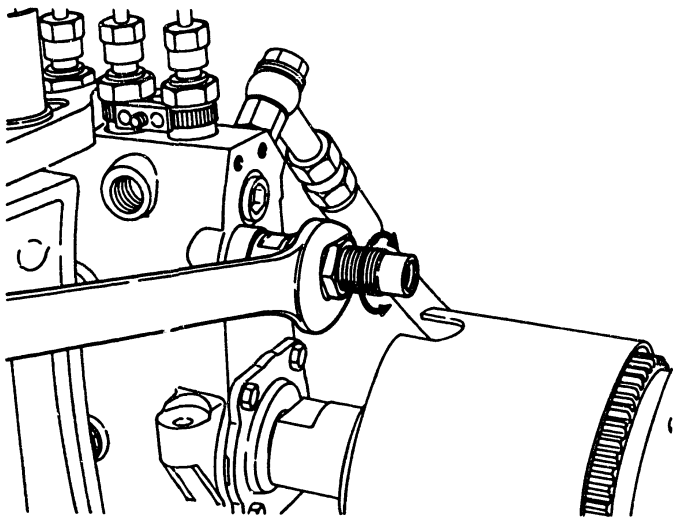

Fig. 99 Adjustment of smoke limiter
6. Maintaining the pump speed at "Nk" rpm, adjust and set the control rack in "Rj" mm position (normally "Rb" plus 0.2 mm) with the smoke limiter spring capsule. (Fig. 99)